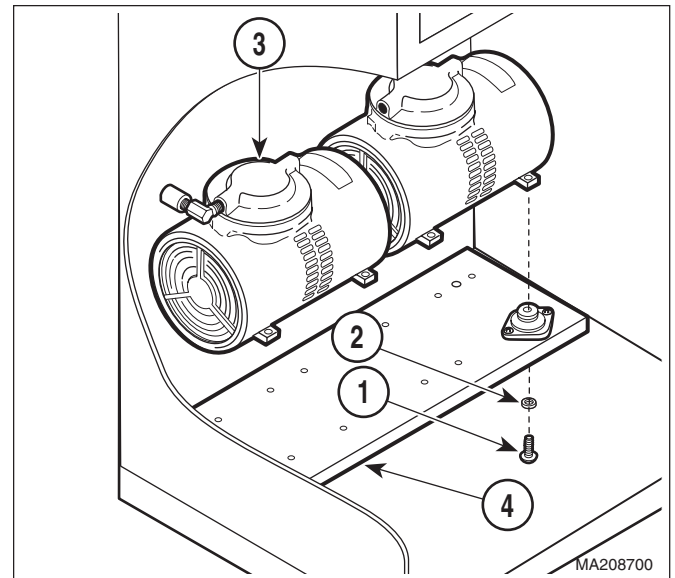

Figure 4-12. Pressure Pump Assembly Removal / Installation
- (7) Remove two finger screws (3) and motor cover (2) from cabinet weldment (4).
- (8) Push in on release ring of elbow (5) while simultaneously pulling tube (6) from elbow.
- (9) (-001 & -002) Remove elbow (5) and exhaust silencer (7) from pressure pump assembly (8). (-003) Will have fittings installed.
- (10) Remove two screws (9) and washers (10) from motor mount (11).
- (11) Turn motor mount (11) on its side so the bottom of the motor mount is facing you.
- (12) Remove four screws (1, Figure 4-12), lockwashers (2), and pressure pump assembly (3) from motor mount (4).
- (1) Position pressure pump assembly (3, Figure 4-12) on motor mount (4) and secure with four lockwashers (2) and screws (1).